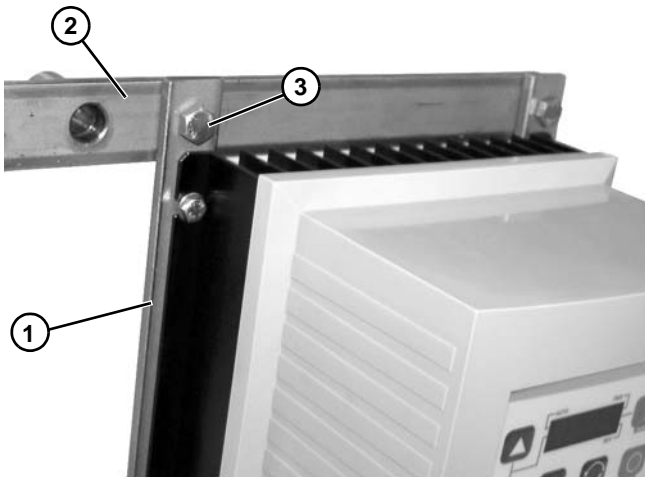

Figure 8
- Attach controller mounting bars (Figure 8, item 1) to conveyor mounting bar (Figure 8, item 2) with M6x16 mm screws (Figure 8, item 3).